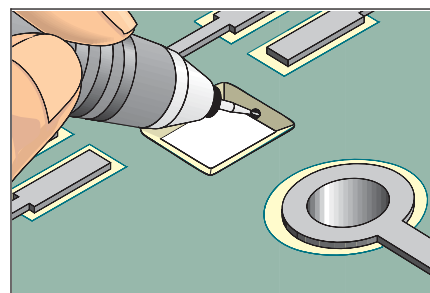

Figure 2 Bevel edge using a hand held drill or file.
- 3A. Bevel the edge using a hand held drill and ball mill or using a file. (See Figure 2.)